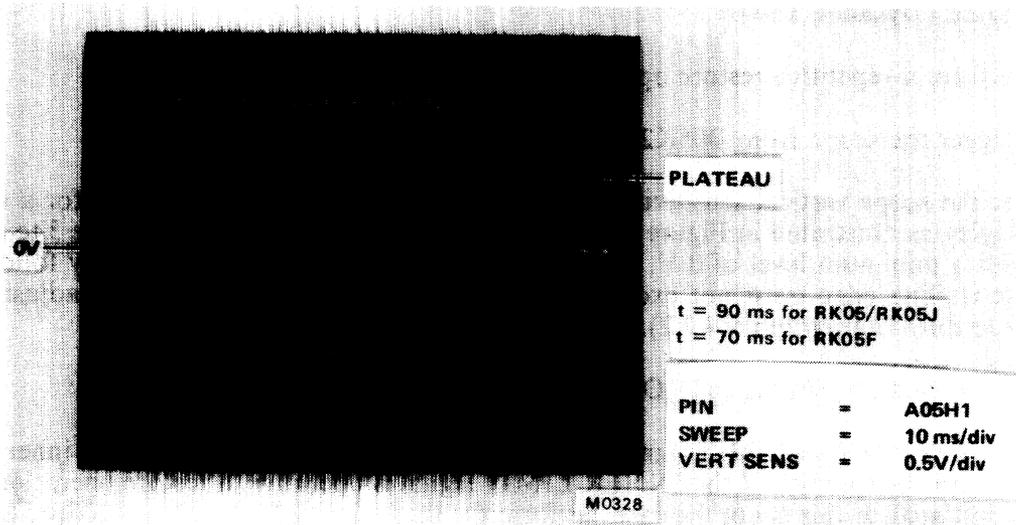

Figure 5-19 Full Stroke Waveform
- c. Observe A05H1 (VELOCITY) for a scope display as illustrated in Figure 5-19. The 0 V level of the profile must be reached in less than 90 ms from the start of the seek (70 ms for RK05-F).